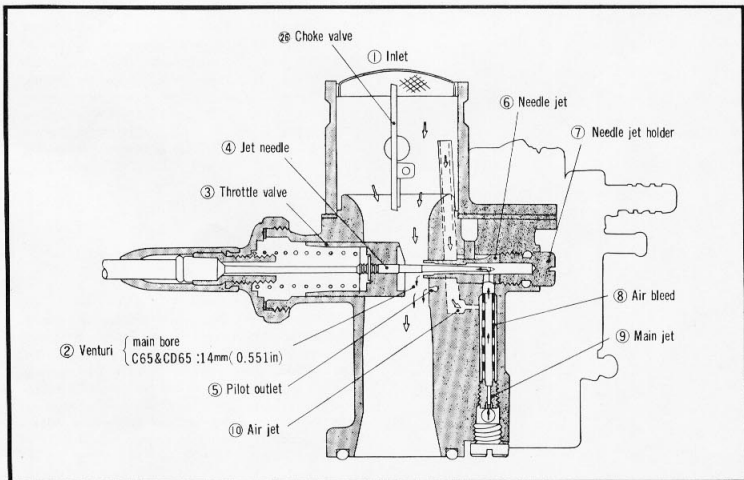

Figure 3-91. Carburetor sectional diagram
The carburetor used is a down draft type which draws the air into the carburetor from the top, henceforth the name. The air from the air cleaner which enters from the inlet opening ①, passes by the throttle valve ③ and is drawn into the engine after passing through the venturi. The power output is determined by the volume of air flow which is controlled by the movement of the throttle valve ③ to vary the opening of the venturi ②. (Fig. 3-91)